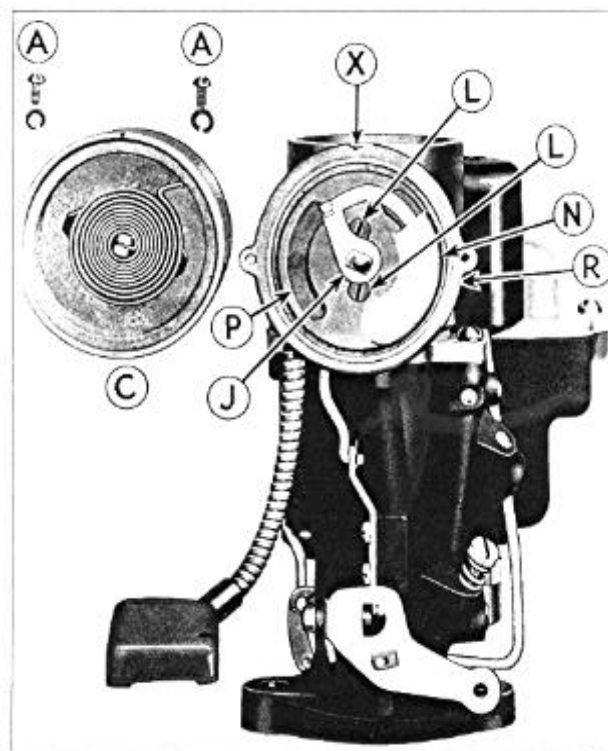
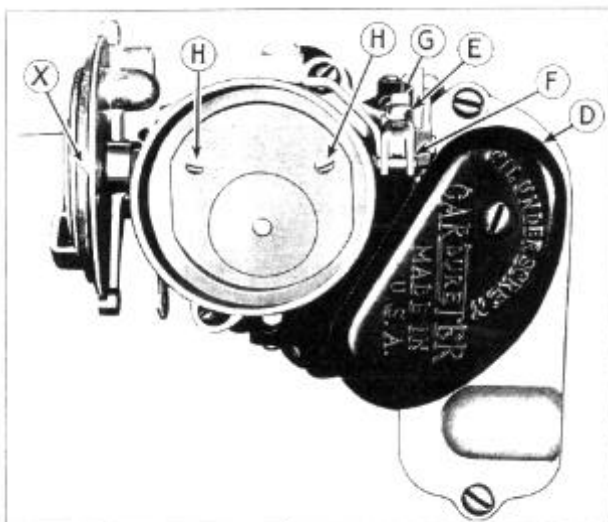
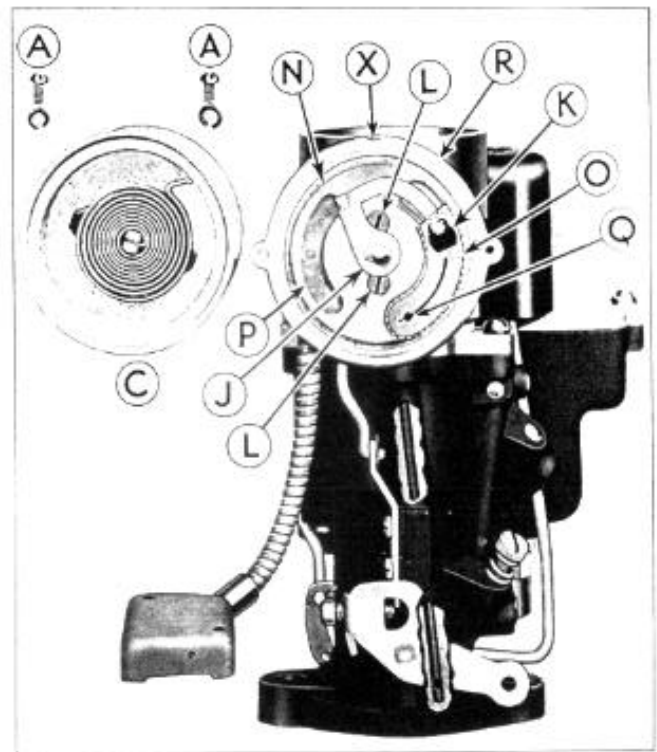
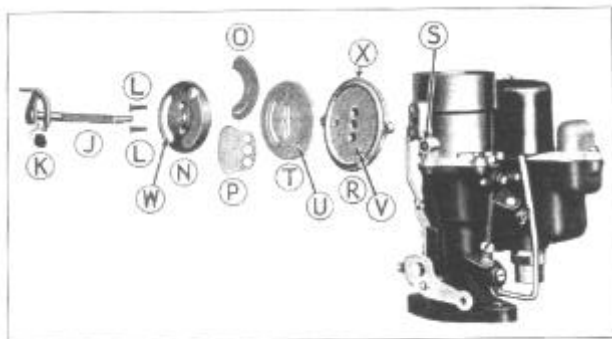

Figure 407
Figure 408
Figure 409
Figure 410
The climatic control is an integral part of the carburetor and consists primarily of two major assemblies: the thermostatic coil and the piston plate housing assembly. The thermostatic coil assembly consists of cover, insulators and thermostatic coil (Figure 407).
- (1) Remove dust cover (D), lock washer and attaching screw (Figure 408).
- (2) Remove both pin springs (lower and upper) on connector rod, to remove rod, on front of carburetor.
(25) Loosen screw (E, Figure 408) in choke trip lever assembly (F, Figure 408). Do not lose small hand trip lever (G, Figure 408).
(26) Remove both choke valve attaching screws (H, Figure 408).
(27) Revolve choke piston lever and shaft assembly (J, Figures 407-9-10) to the left and remove Bakelite choke piston (K, Figures 409 and 410). With piston lever in this position, choke shaft can be pulled free from the assembly. Caution—Do not lose Bakelite choke piston.
(28) Remove attaching screws (L, Figures 407, 409 and 410).
(29) Remove piston plate (N, Figures 407, 490 and 410).
(30) Remove port plate (O, Figures 409 and 410).
(31) Remove strainer (P, Figures 407, 409 and 410). These parts described above are to be washed in clean gasoline and dried with air.
The remainder of piston plate housing assembly with cork insulator disc should be blown out. Air pressure can be applied, to port (Q, Figure 409) in piston plate housing (R, Figures 407, 409 and 410). This will clean out the passage that runs through the carburetor and terminates in carburetor bore below throttle valve.
If it should become necessary to remove piston plate housing from air horn, make certain to use new gasket (S", Figure 410) to insure perfect seal. An air leak at this point will impair the action of the climatic control.
(32) Assemble cork gasket (T, Figure 410) in piston plate housing (R, Figure 410). Make certain that cork is installed so that small hole in cork (U, Figure 410) fits over raised boss (V, Figure 410).
(33) Hold piston plate (N, Figures 407, 409 and 410) in left hand. Place port plate (O, Figures 409 and 410) in grooved recess in piston plate (N). Lay
strainer (P, Figures 407, 409 and 410) in position covering slot (W, Figure 410) in piston plate.
(34) Then place cork (T, Figure 410) and piston plate housing (R, Figures 407, 409 and 410) on top. Make certain that slot (W) on piston plate is in perfect alignment with similar slot in cork gasket (T).
(35) Complete assembly must be held firmly together while being installed on air horn. Misalignment of any part will prevent choke from operating properly.
(36) Fasten in place by tightening screws (L) firmly.
(37) When assembling choker shaft only half of trip lever assembly (F, Figure 408) should be placed on the shaft. Piston arm will then be far enough away from housing to permit Bakelite piston (K, Figures 409 and 410) to be placed in piston plate and line up with piston arm. Shaft should then be carefully slid through rest of trip lever. When reassembling choke valve, make certain it is in perfect alignment with air horn bore. If it is not, choke will stick in its closed